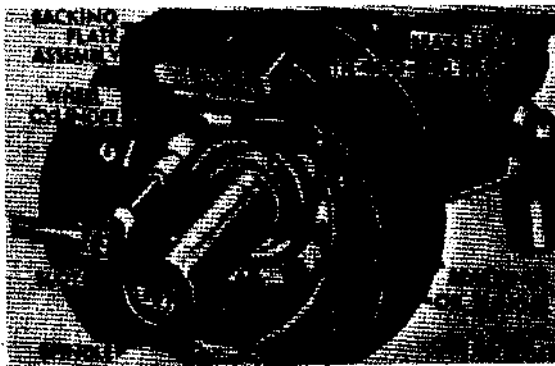

Figure 302. Wheel cylinder and brakeshoes
h. Wheel Cylinders. The wheel cylinder (fig. 302), mounted on the backing plate assembly at both ends of each axle assembly, consists of two opposed rubber cups and pistons inclosed in a cast housing. A rubber boot installed at each end of the housing prevents dirt or foreign matter from entering the cylinder. The two rubber cups installed between the pistons inside the housing prevent fluid from leaking past the pistons. Push rods extending through the rubber boots provide connection between the wheel cylinder pistons and brakeshoes ((i) below). The fluid forced from the air hydraulic cylinder ((f) above) enters the wheel cylinder at a point between the rubber cups and pistons. This causes the cups and pistons to move outward away from the center of the cylinder bore so as to exert pressure through the push rods on the upper ends of the brakeshoes ((i) below).
i. Brakeshoes. Two brakeshoes (fig. 302) are mounted on the backing plate at both ends of each axle assembly. The lower ends of the shoes are secured to the backing plate by anchor pins and locknuts. The upper ends of the shoes are retained in position by C-washers installed on guide pins attached to the backing plate. This permits each shoe to pivot on its anchor pin. The outer ends of the wheel-cylinder push rod engage slots in the upper ends of the brakeshoes. Therefore, when pressure is exerted on the inner ends of the push rods by the wheel-cylinder pistons ((h) above), the push rods force the upper ends of the brakeshoes away from the wheel cylinders. This causes the entire brake lining surface of both shoes to contact the braking surface of the brakedrum, thereby creating friction between the brakeshoes and brakedrum to reduce or stop the rotation of the drum (and wheel).